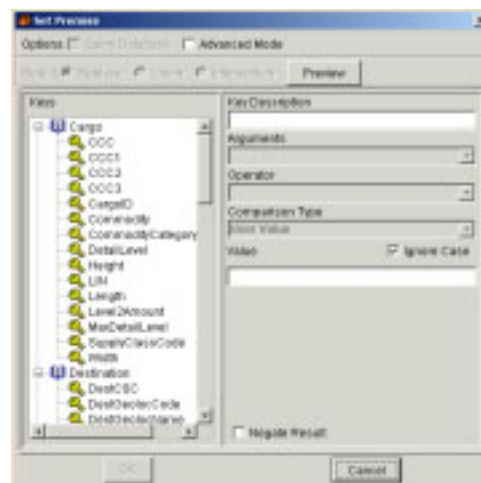

Figure 5.117 Set Premise Window
- Click the Set... button at the right of the Premise text box. The Set Premise window opens (Figure 5.117).